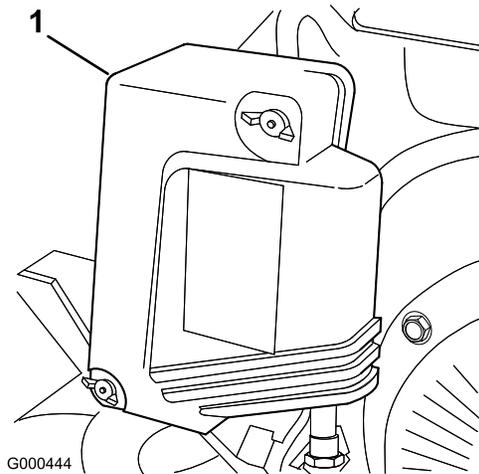

Figure 27
2. Remove wing nuts securing air cleaner cover to air cleaner and remove cover. Clean cover thoroughly (Figure 27).